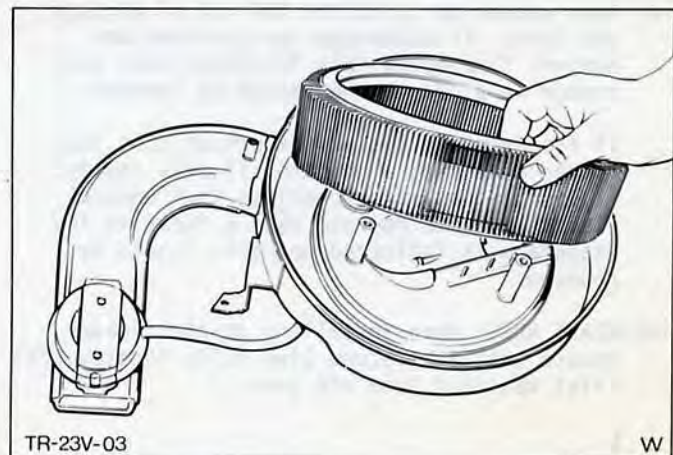

Fig.38. Air cleaner element removal.
5. Remove air cleaner element, Fig.38.